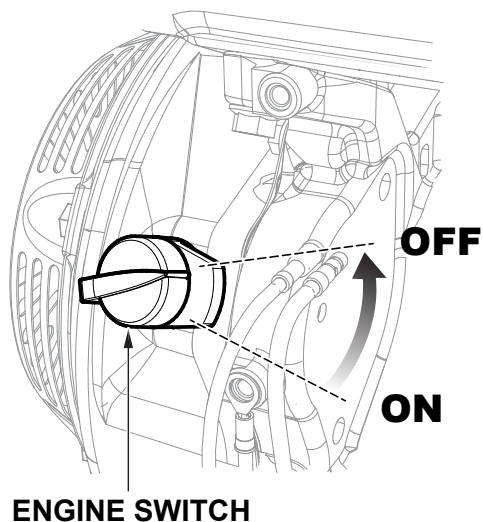

Figure 23. Engine ON/OFF Switch (OFF)
5. Place the engine ON/OFF switch (Figure 23) in the **OFF** position.